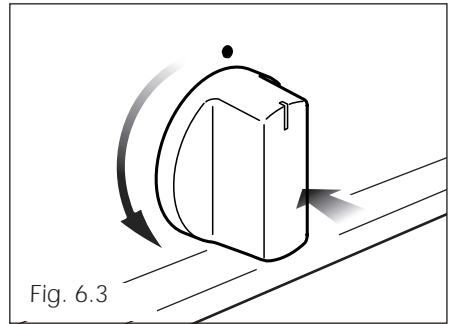

Fig. 6.3
- 2) Lightly press and turn the temperature knob anti-clockwise (fig. 6.3) to the max position (230★ fig. 6.1).